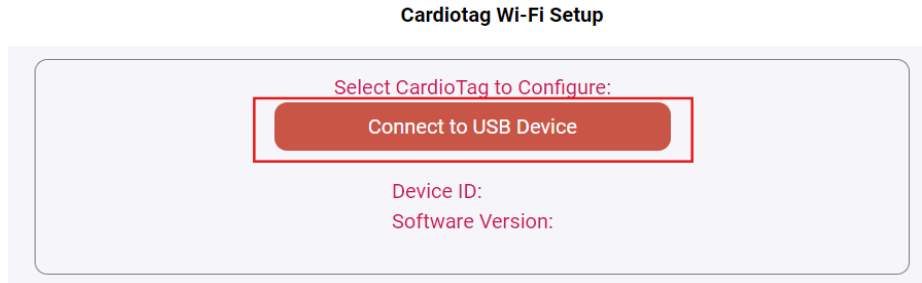
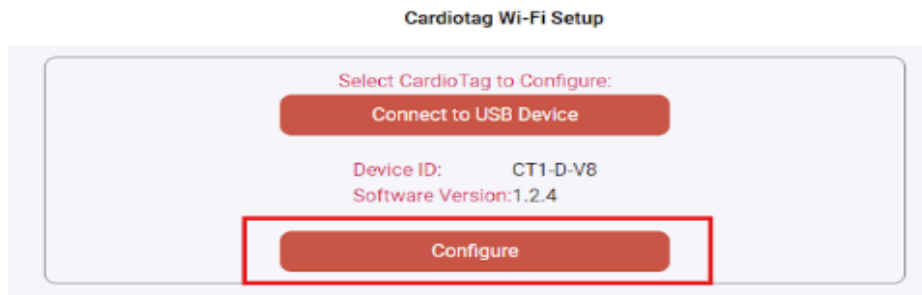

Figure 3: Wi-Fi Setup, “Connect to USB Device” option
Figure 4: Wi-Fi Setup, “Configure” option
- Select "Connect to USB Device", as shown in Figure 3. Select your "CardioTag" device, and then select "Configure" to connect, as shown in Figure 4. Follow the subsequent onscreen instructions to connect the device to a local Wi-Fi network.